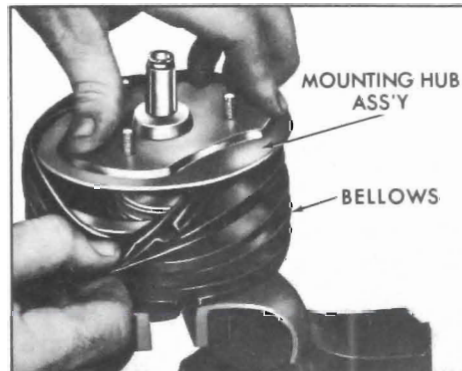

Figure 9-28—Removing Mounting Hub Assembly
5. Still holding the mounting hub down, remove lip of bellows from hub (Figure 9-28), then lift mounting hub assembly and return spring from power unit.